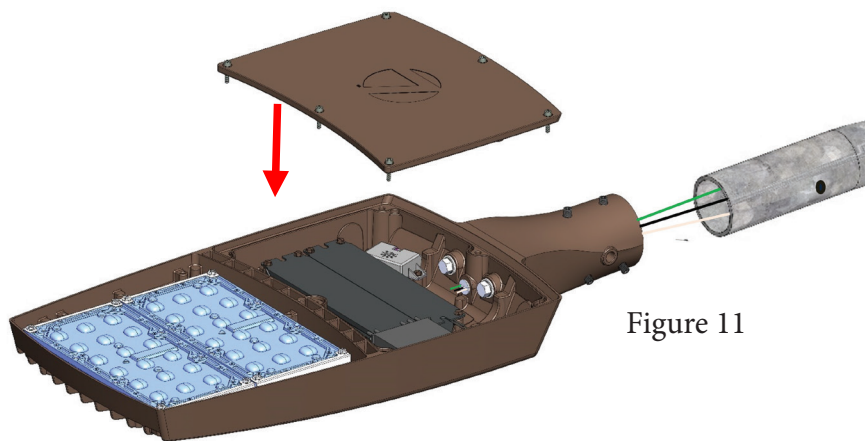

Figure 11
7. Make sure that wires are not pinched, the door gasket did not move from original position, and sits in its groove on the door properly. Reinstall the mounting door (Figure 11) that was removed, tighten the six captive screws with the 5/32 Allen wrench to 25-30 in-lbs (overtighten can cause thread stripping and void all warranties).